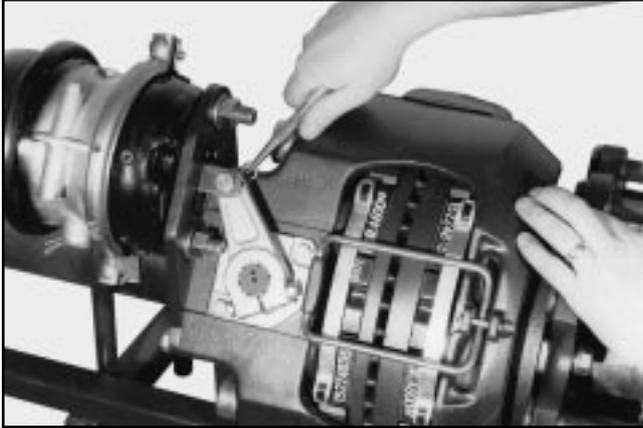

FIG. 20
2. Remove the 'R' clip and clevis pin from the lever (Fig. 20).
6. Install the clevis in and 'R' clip (Fig. 20).